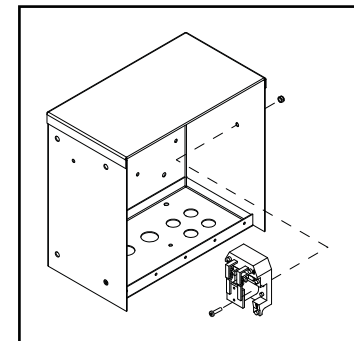

FIGURE 6
2. Install the AC relay inside the control box with two 10-32 x .75" screws and nylock nuts (included in kit). SEE FIGURE 6.